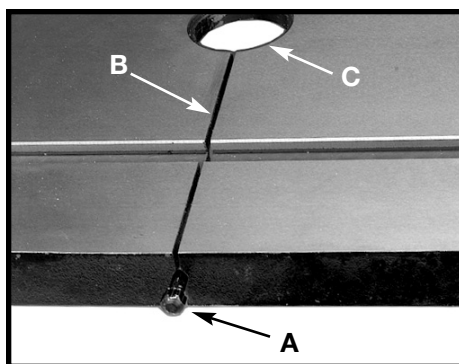

Fig. 5
1. Remove the table pin (A) Fig. 5.
2. Align the blade with the table slot (B) Fig. 5. Slide the table until the blade has reached the center cutout (C) Fig. 5, then rotate the table 90 degrees toward the front of the machine.